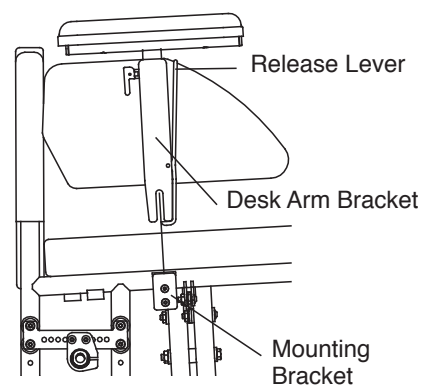

Figure 34
2. While holding the armrest release lever, lift the desk arm assembly to remove it from the mounting bracket attached to the wheelchair frame. See Figure 34.
Slide the desk arm bracket into the mounting bracket attached to the wheelchair frame. See Figure 34.
2. Separate the cloth side guards from the back upholstery and from the frame. See Figure 34.